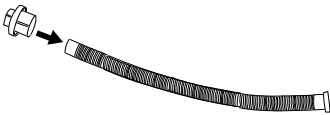
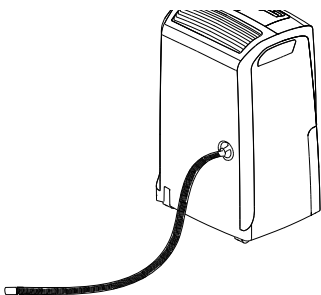
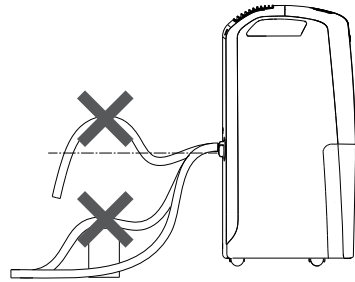

fig. 3
fig. 4
fig. 5
- 2) Insert the drain cap **1** in the condensate drain hose (**8**) till the end (fig. 3) then screw the cap into the spout. (fig. 4).
- 3) Make sure the end of the hose is no higher than the spout (Fig. 3) or water could remain in the tank. Make sure there are no kinks in the hose (Fig. 5).